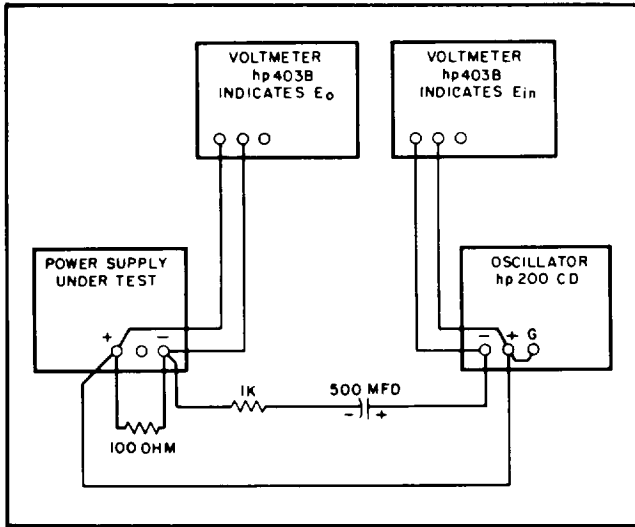

Figure 5-10. Output Impedance, Test Setup
- a. Connect test setup shown in Figure 5-10.